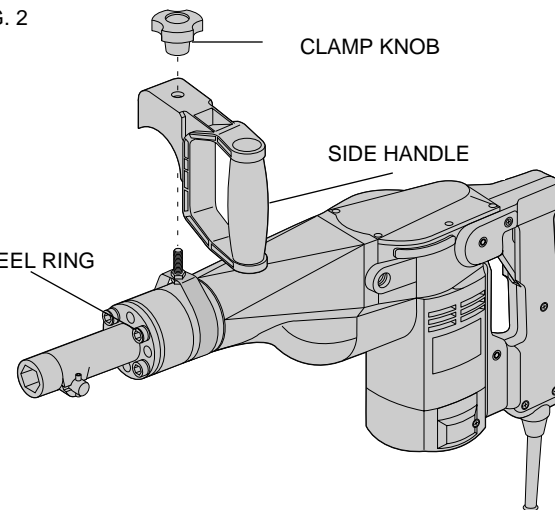

FIG. 3
1. Loosen, but do not remove, the clamp knob (Fig. 3)